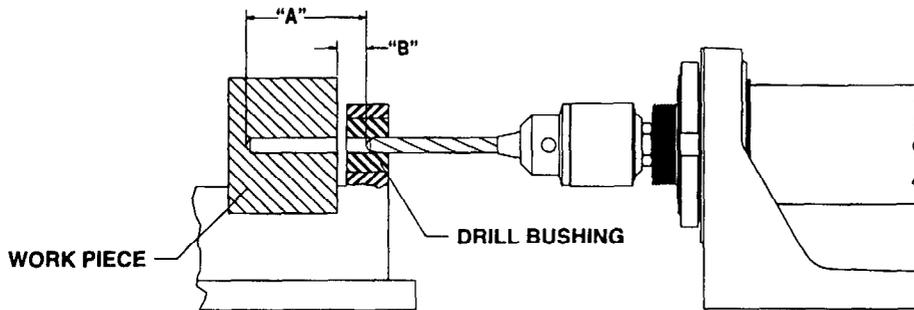
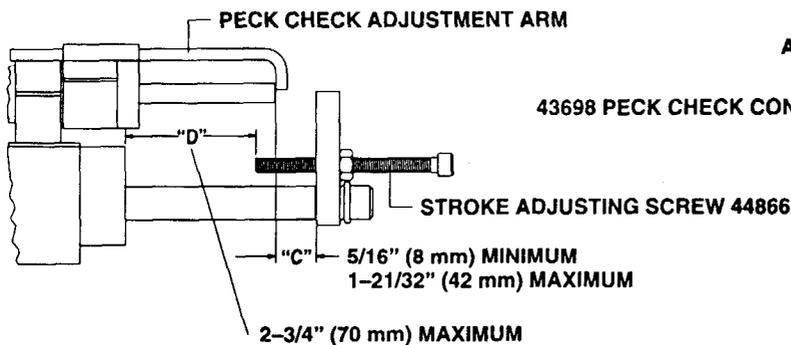

FIGURE 2
FIGURE 3
2. Position the peck feed drill in the fixture, being certain the unit is in the full retract position (piston rod all the way back). Determine the total distance the drill bit must travel (distance "A", figure 2). Also determine the length of rapid advance (distance "B", figure 2).
3. Turn the stroke adjusting screw (44866) so the distance between the leading edge of the screw and the orifice block (43688) – distance "D" in figure 3 – equals the total distance the drill bit must travel (distance "A", figure 2).
5. Position the peck check adjustment arm ("adjust stroke" screw must be loose to allow positioning of the bracket) and hydraulic check rod to set the distance of rapid advance (distance "C", figure 3). NOTE: Distance "C" in figure 3 should be .005" to .015" less than distance "B" in figure 2 to assure the drill point does not strike the work piece during the rapid ad-
4. Chips can be more readily expelled if proper clearance is maintained between the work piece and the drill bushing (figure 2).